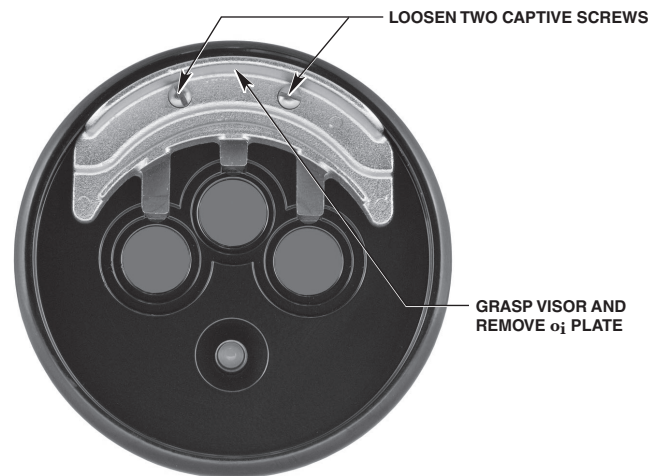

Figure 17 – **oi** plate removal
2. Loosen the two captive screws, then grasp the **oi** plate by the visor and remove it from the detector. See Figure 17.